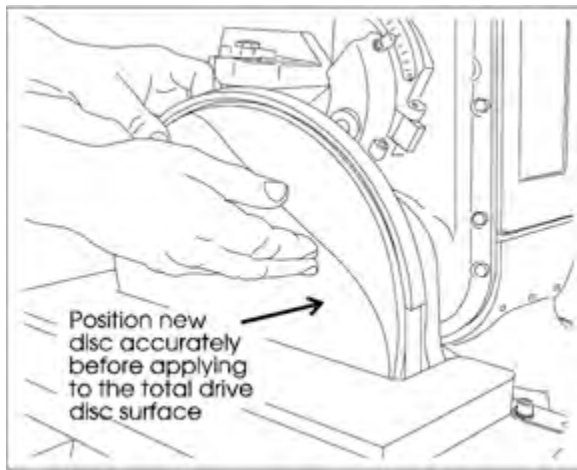

Figure 16: Installing new abrasive disc
5. Position the new disc carefully so it is centered accurately on the drive disc (See Figure 16).